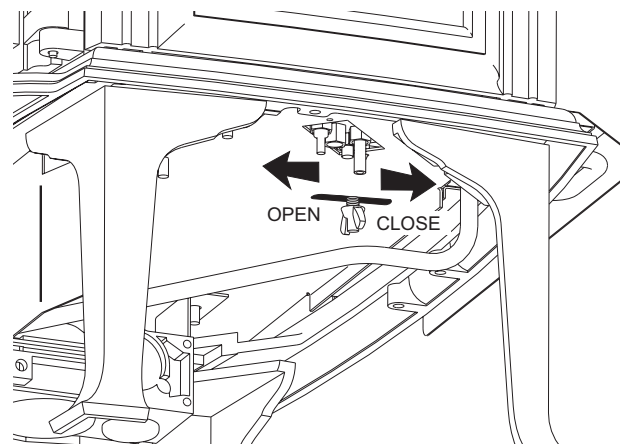

Figure 26. Air Shutter adjustment
18. Adjust the Air Shutter: Replace the gasket disk and fender washer on the shutter stem. See fig. 26. Pushing the shutter stem back will restrict air to the burner. Pulling the shutter forward will increase air. Set the stem at the half-way point in its adjustment travel. You will need to experiment to find the best setting for your particular installation. The shutter is set at the halfway position at the factory.
1. Locate and loosen the adjustment stem wing nut protruding from the bottom of the firebox, directly behind the gas valve. See fig. 26.